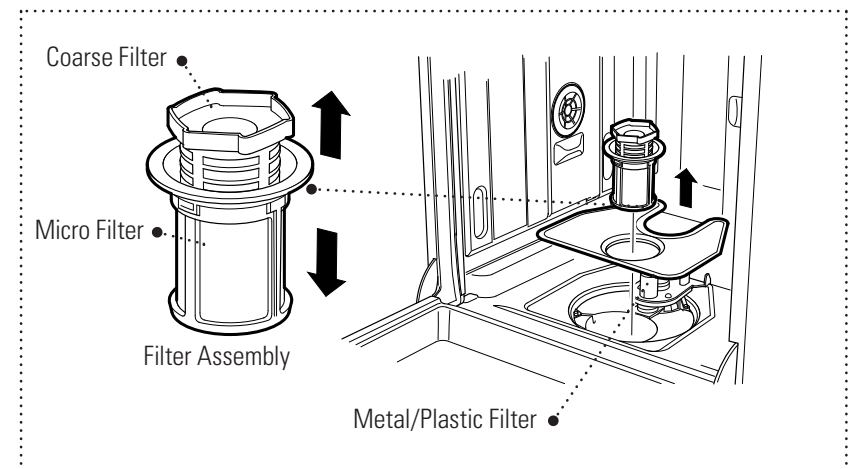

Figure 17
- 1 Turn the filter assembly counter clockwise and lift it out (fig 17).